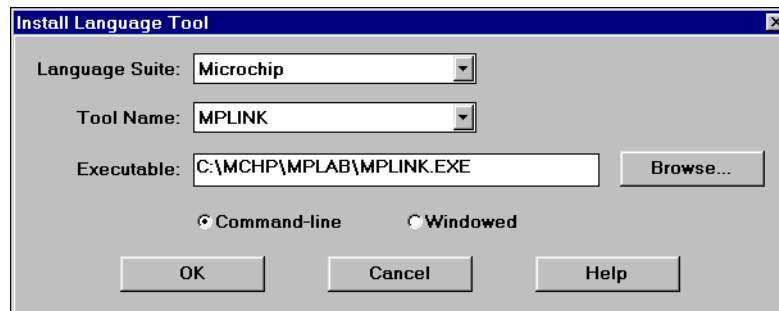

Figure 5.16: Install Language Tool – MPLINK
2. Select *Project > Install Language Tool...* and check that MPLINK is pointing to the `mplink.exe` executable (Figure 5.16). Your executable path may be different from the figure.